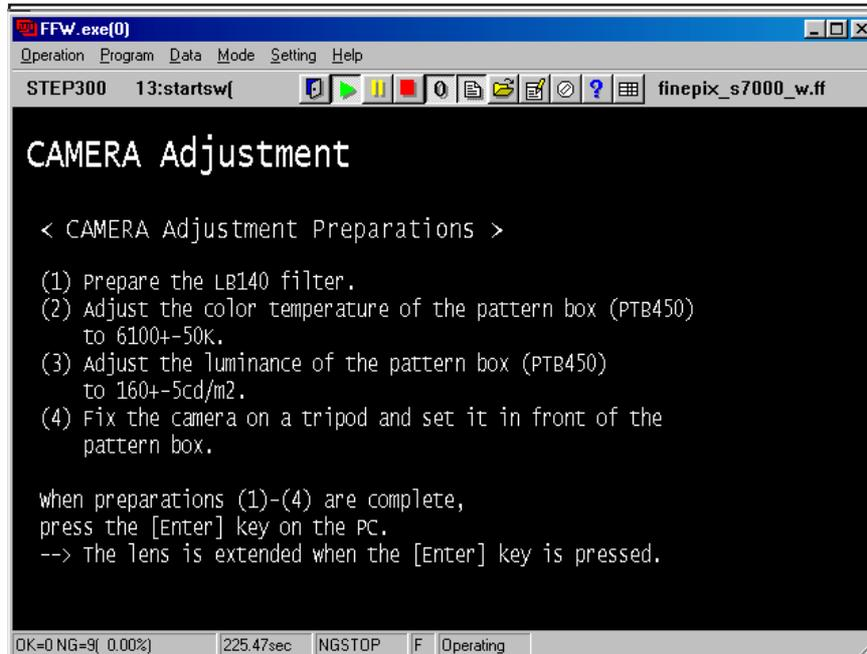

Fig.16
---> The [Shutter Adjustment Preparation Screen (Fig.16)] appears.